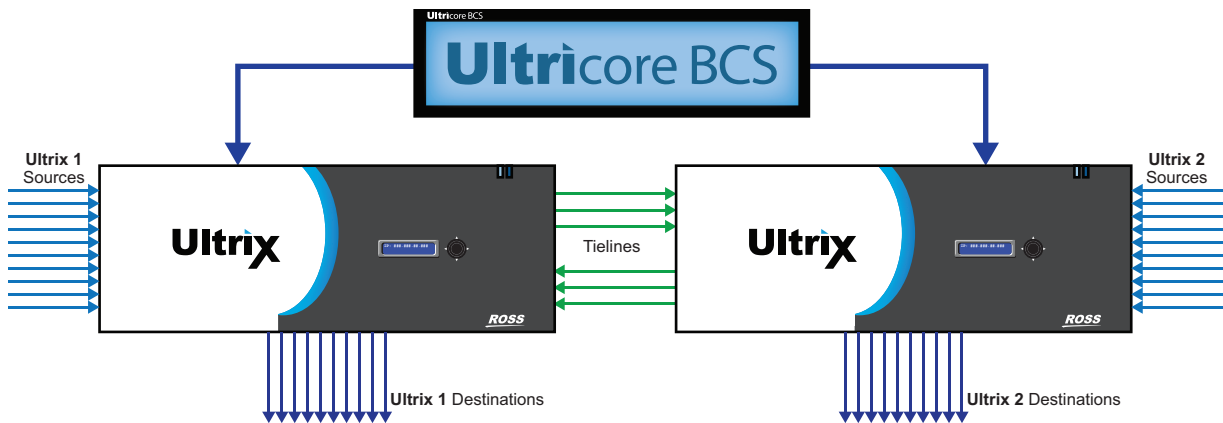
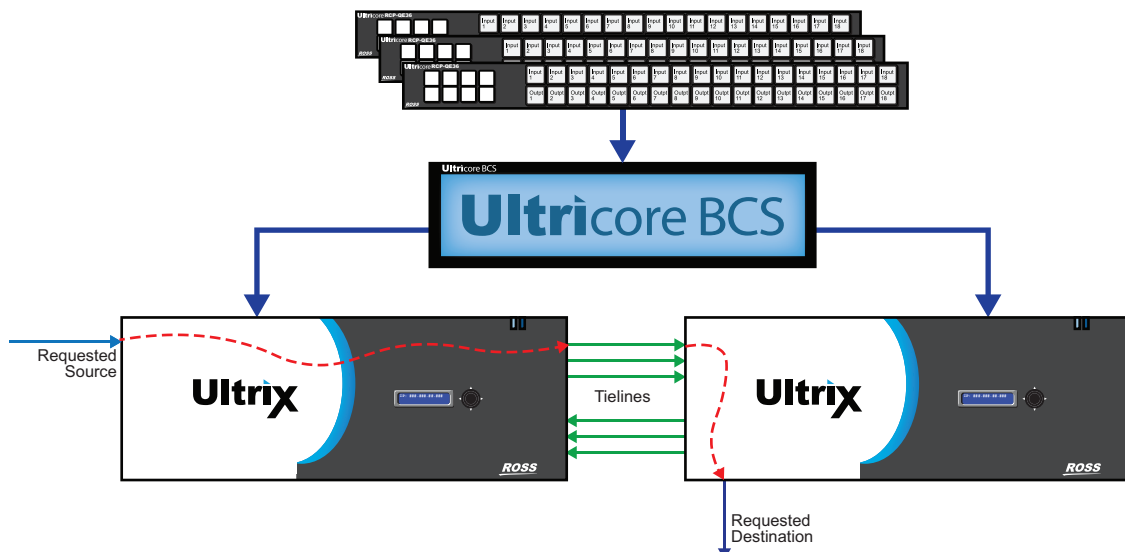

Figure 38 Example of a Distributed Routing System Work Flow with Tielines
Figure 39 Example of Tielines in a Work Flow
★ Tielines do not have to be bi-directional as represented in **Figure 38** and **Figure 39**.
Figure 38 represents a two-way tieline connection between routers where one (or more) outputs of Ultrix 1 are connected to the inputs of Ultrix 2, and one (or more) outputs of Ultrix 2 are connected to the inputs of Ultrix 1.
Figure 39 illustrates a work flow where Ultrix 2 needs a source that is only present on Ultrix 1. The Ultracore BCS routes the requested source to a destination that is configured as a tieline, and on Ultrix 2, it will route the tieline source to the user selected Destination.
In **Figure 39** the following occurred:
- b. Use the **From Device** menu to specify the router that will provide the start point for the Ultricore BCS tieline. In **Figure 39**, this would be Ultrix 1.
- b. Use the **To Device** menu to specify the router that will be the end point for the Ultricore BCS tieline. In **Figure 39**, this would be Ultrix 2.